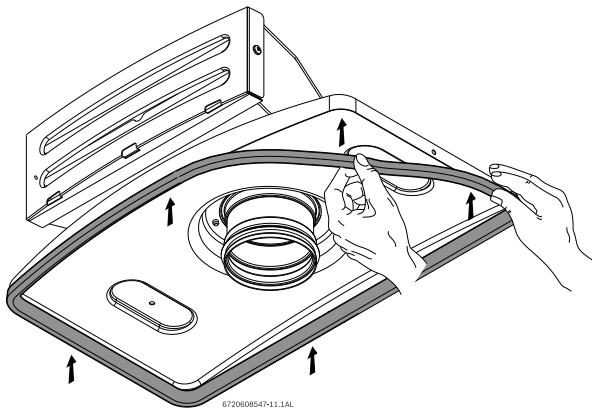

Fig. 6
- **3.** Attach the gasket provided with the kit as shown in Fig. 6.